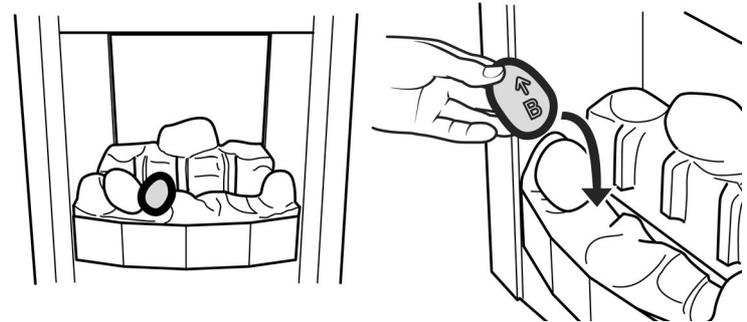

Figure 34.
5. Hold pebble 'B' upright with the arrow pointing to the top. Place pebble "B" on top of the front base pebble. It should lie against the moulded pebble to its left. (See figure 34).